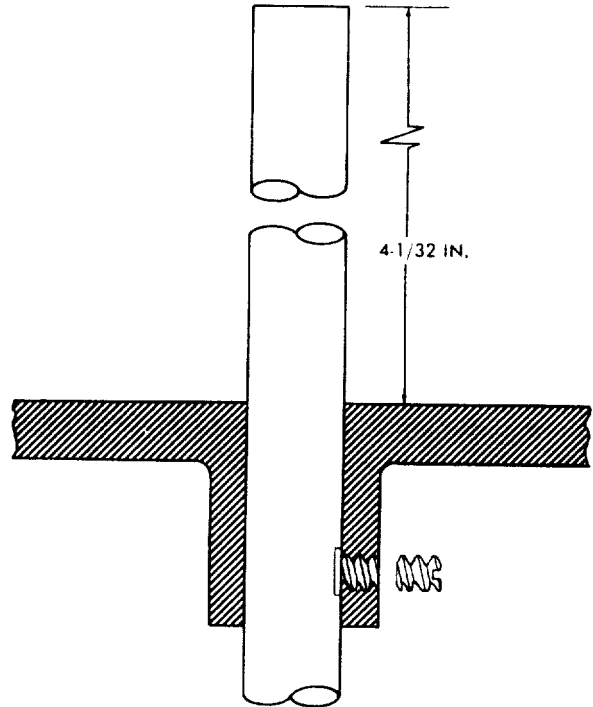

Figure 15. Center gear position.
align screw hole in gear with bottom flat on shaft. Install setscrew (88), do not tighten. Position gear as shown in figure 15 and tighten screw. Install collar (87, fig. 6), align screw hole in collar with center flat on shaft (90), and install setscrew (86).
- (2) Install gaskets (84) and manifold (85). Install elbow (39).